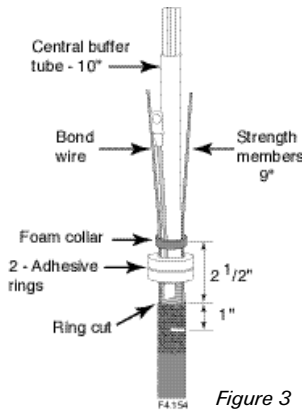

Figure 3
7. Peel the backing away from the foam adhesive strip. Wrap one layer of foam around the central core tube 2-1/2" above the sheath ring cut, excluding the bond wire (if present) and the strength members. Wrap the remainder of the foam strip around the central core tube strength members, and bond wire (if present) over the previously placed foam strip, creating a foam collar. (See Figure 3)
8. Install both yellow adhesive rings over the central core tube, strength members, and bond wire between the shield (if present) or the sheath ring cut and the foam collar. (Figure 3)